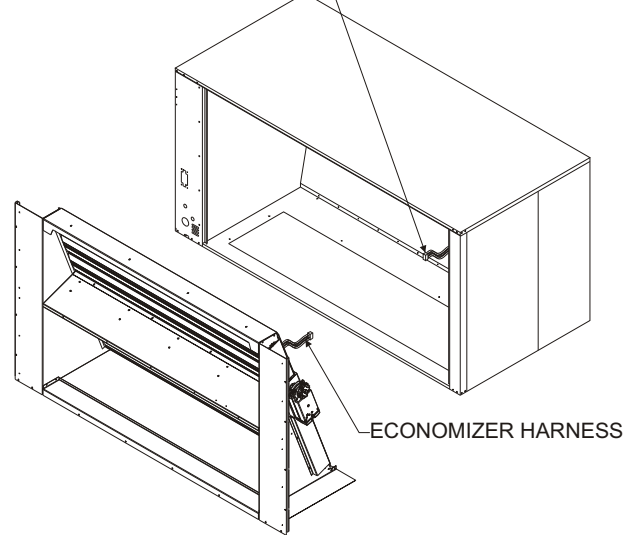

Figure 4
- 3a. Slide economizer damper in the return air opening. Economizer damper must slide over bottom return duct opening and sit on top of return air opening's flange. **See Figure 4.**